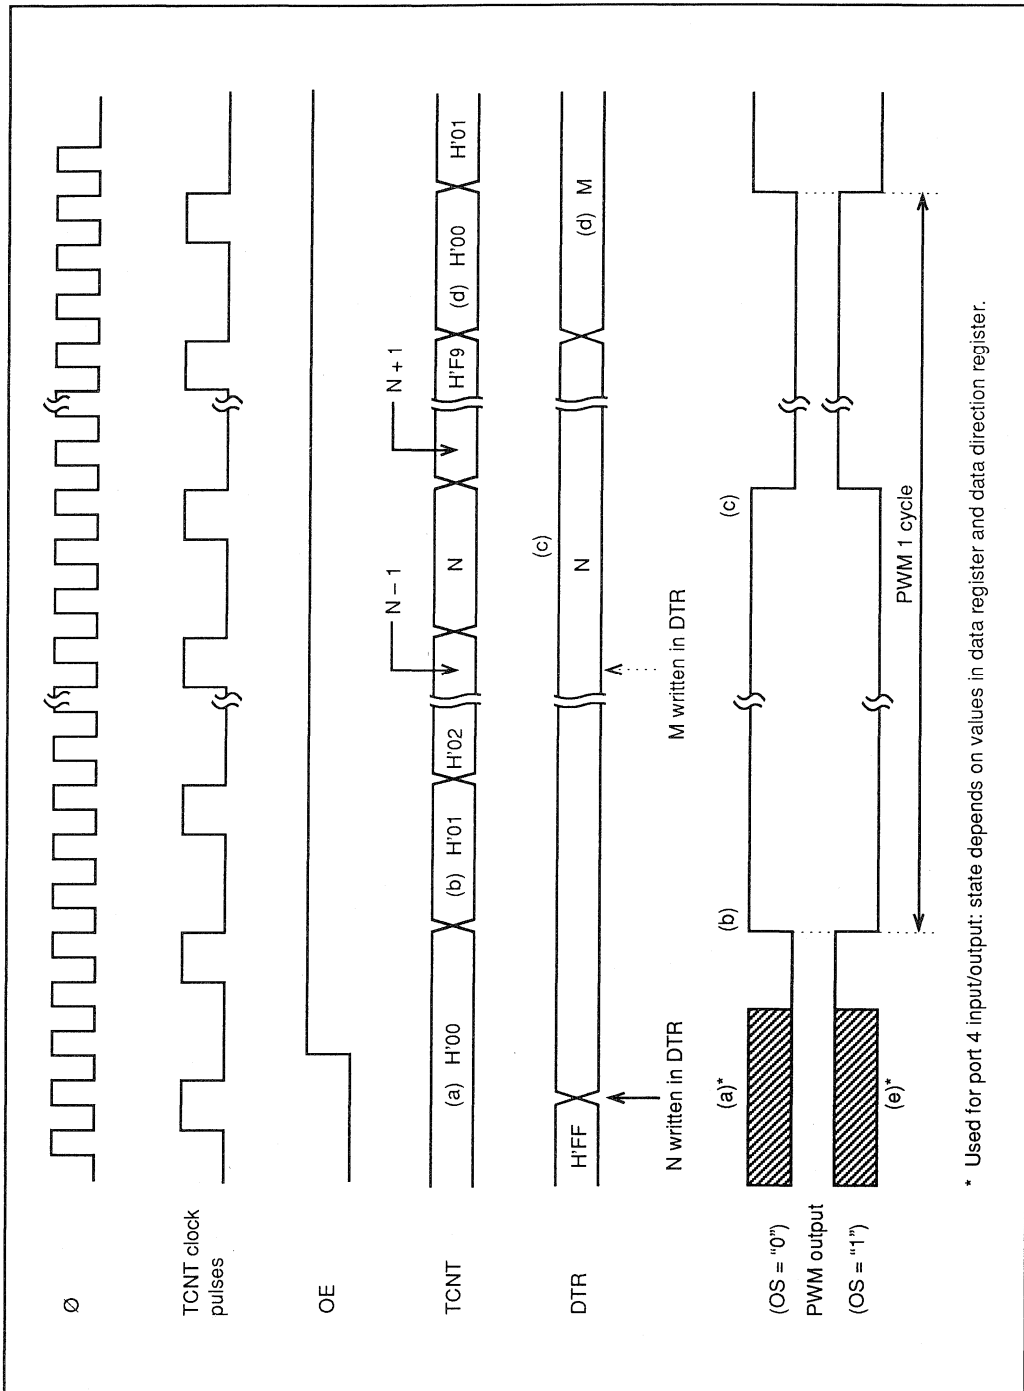

Figure 8-3. PWM Timing
Figure 8-3 is a timing chart of the PWM operation.
① **When (OE = “0”) – (a) in Figure 8-3:** The timer count is held at H’00 and PWM output is inhibited. (Pin 46 (for PW0) or pin 47 (for PW1) is used for port 4 input/output, and its state depends on the corresponding port 4 data register and data direction register.) Any value (such as N in Figure 8-3) written in the DTR becomes valid immediately.
- i) The timer counter begins incrementing. The PWM output goes High when TCNT changes from H’00 to H’01, unless DTR = H’00. [(b) in Figure 8-3]
- ii) When the count passes the DTR value, the PWM output goes Low. [(c) in Figure 8-3]
- iii) If the DTR value is changed (by writing the data “M” in Figure 8-3), the new value becomes valid after the timer count changes from H’F9 to H’00. [(d) in Figure 8-3]
(2) **Negative Logic (OS = “1”) – (e) in Figure 8-3:** The operation is the same except that High and Low are reversed in the PWM output. [(e) in Figure 8-3]